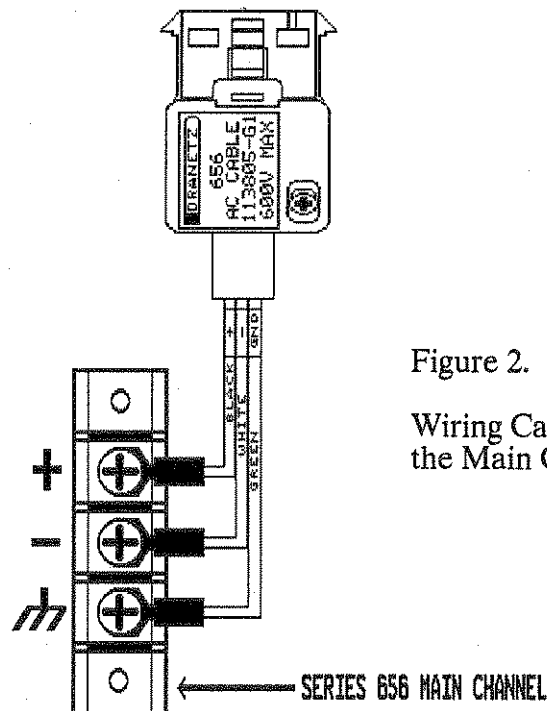

Figure 2.
4. Connect cable 113805-G1 to the barrier strip as illustrated in Figure 2 below: